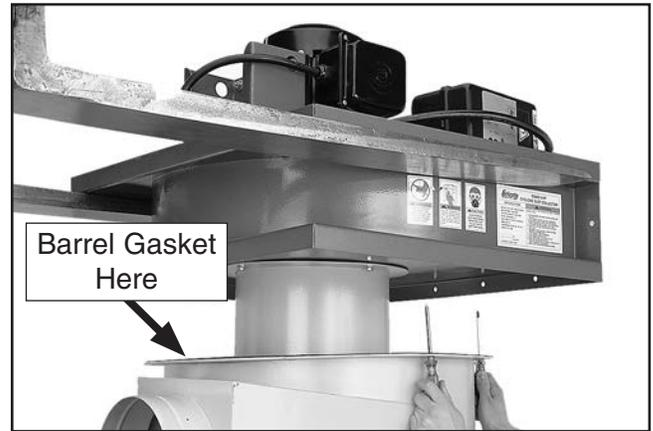

Figure 11. Aligning mounting holes.
16. Using two punches or Phillips screwdrivers, align mounting holes, as shown in **Figure 11**, and lower assembly onto intake barrel.